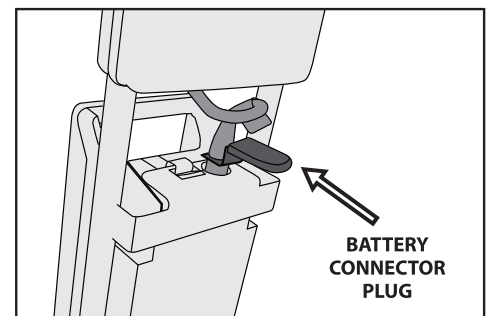

Figure 3
3. Connect battery using the black battery connector plug (Figure 3).